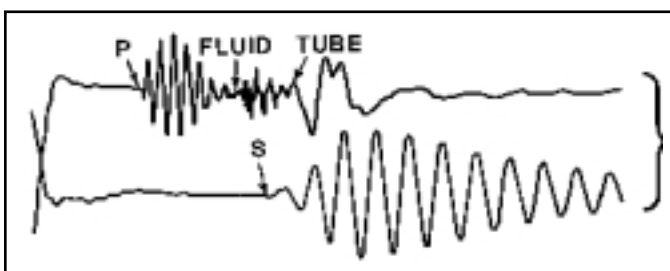

Figure 3: Monopole (upper) and dipole (lower) waveforms in a slow formation (from Zemanek et al, 1991)
Figure 3 (upper) shows a waveform from a monopole source in a slow formation. There is a compressional wave (P) but no shear arrival. The dipole waveform (lower) at the same depth shows no compressional but good shear (S) arrivals. Notice that the shear wave arrives after the fluid wave (the definition of a slow formation).
A dipole source generates a noticeable compressional wave in slow formations and in large boreholes, especially on tools running at higher frequencies. The wave is probably present in faster formations and smaller boreholes, but is below the detection level of most processing techniques (see Figure 3).